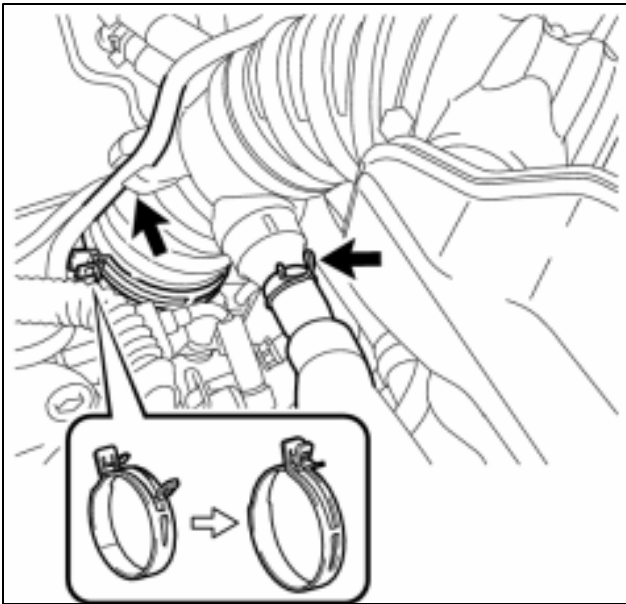

Fig. 3-4
- (1) Tighten and lock the spring clamp located at the throttle body. Release the spring clamp for the crankcase breather tube.(Fig. 3-4)